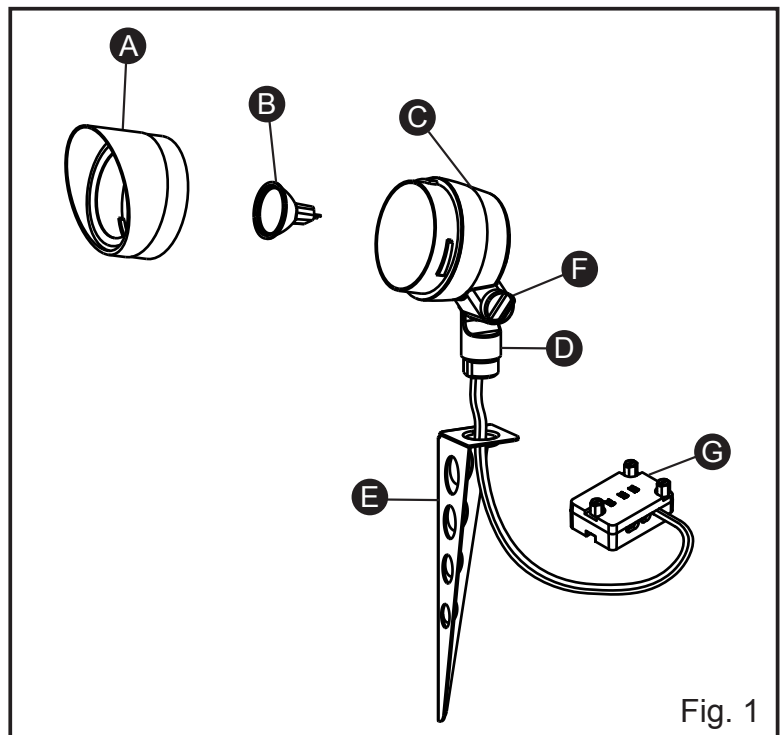

Fig. 1
1. Carefully remove the fixture from its protective packaging. (Fig. 1)
2. Attach the spike (E) to the post (D) by turning clockwise. (Fig. 1)
3. Unscrew the lens cover (A) by turning counter-clockwise. (Fig. 1)
4. Insert the bulb (B) into the bulb socket. Use a soft cloth, as oil from skin may damage the lamp bulb. (Fig. 1)
5. Replace the lens cover (A) on the body (C) by turning clockwise. (Fig. 1)
6. Adjust the fixture's angle by loosening the adjustment screw (F) and retightening it. (Fig. 1)